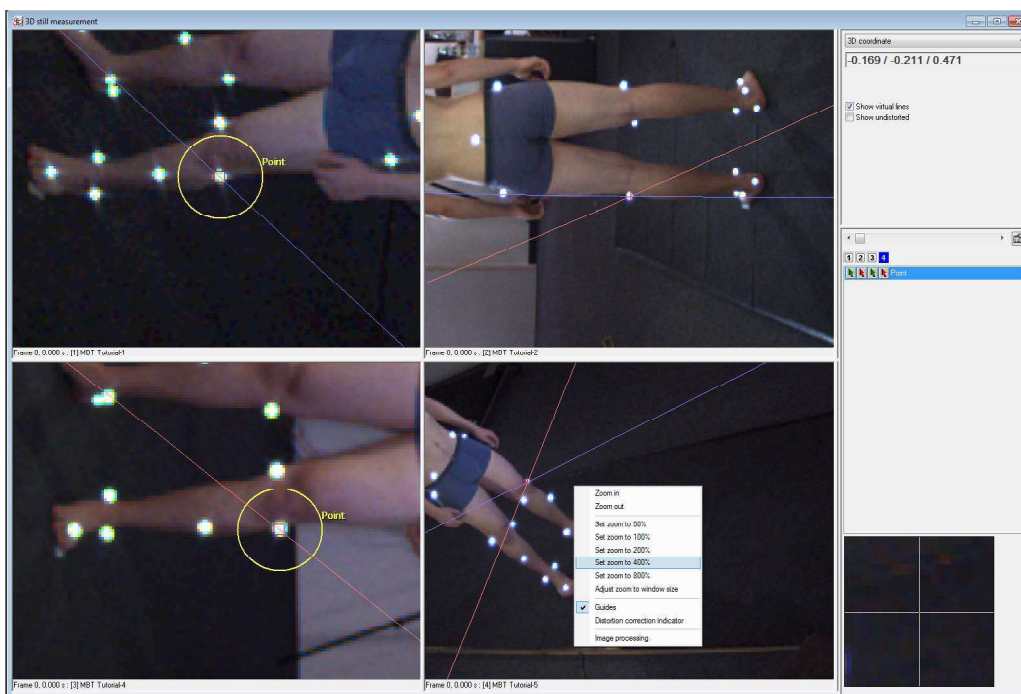

Figure 17.25: Zooming virtual line in still image measurement
- Check if the virtual line hits the marker in all camera view (cf. figure 17.25). Increase the zoom to 200% by  into the image view of each camera and selecting  Set zoom 200%